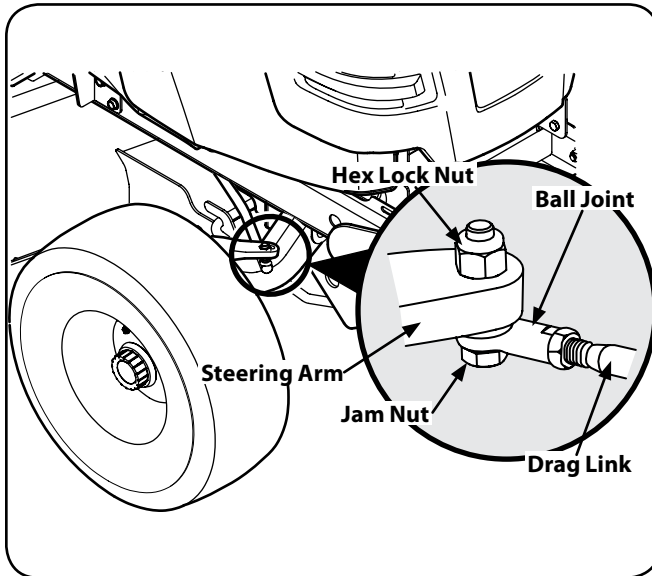

Figure 6-11
- Loosen the jam nuts from the ball joints. See Figure 6-11.
- Disconnect the front ball joints from the steering arms by removing the hex lock nuts. Refer to Figure 6-11. Manually move each wheel to achieve the required toe-in and equal D measurements.